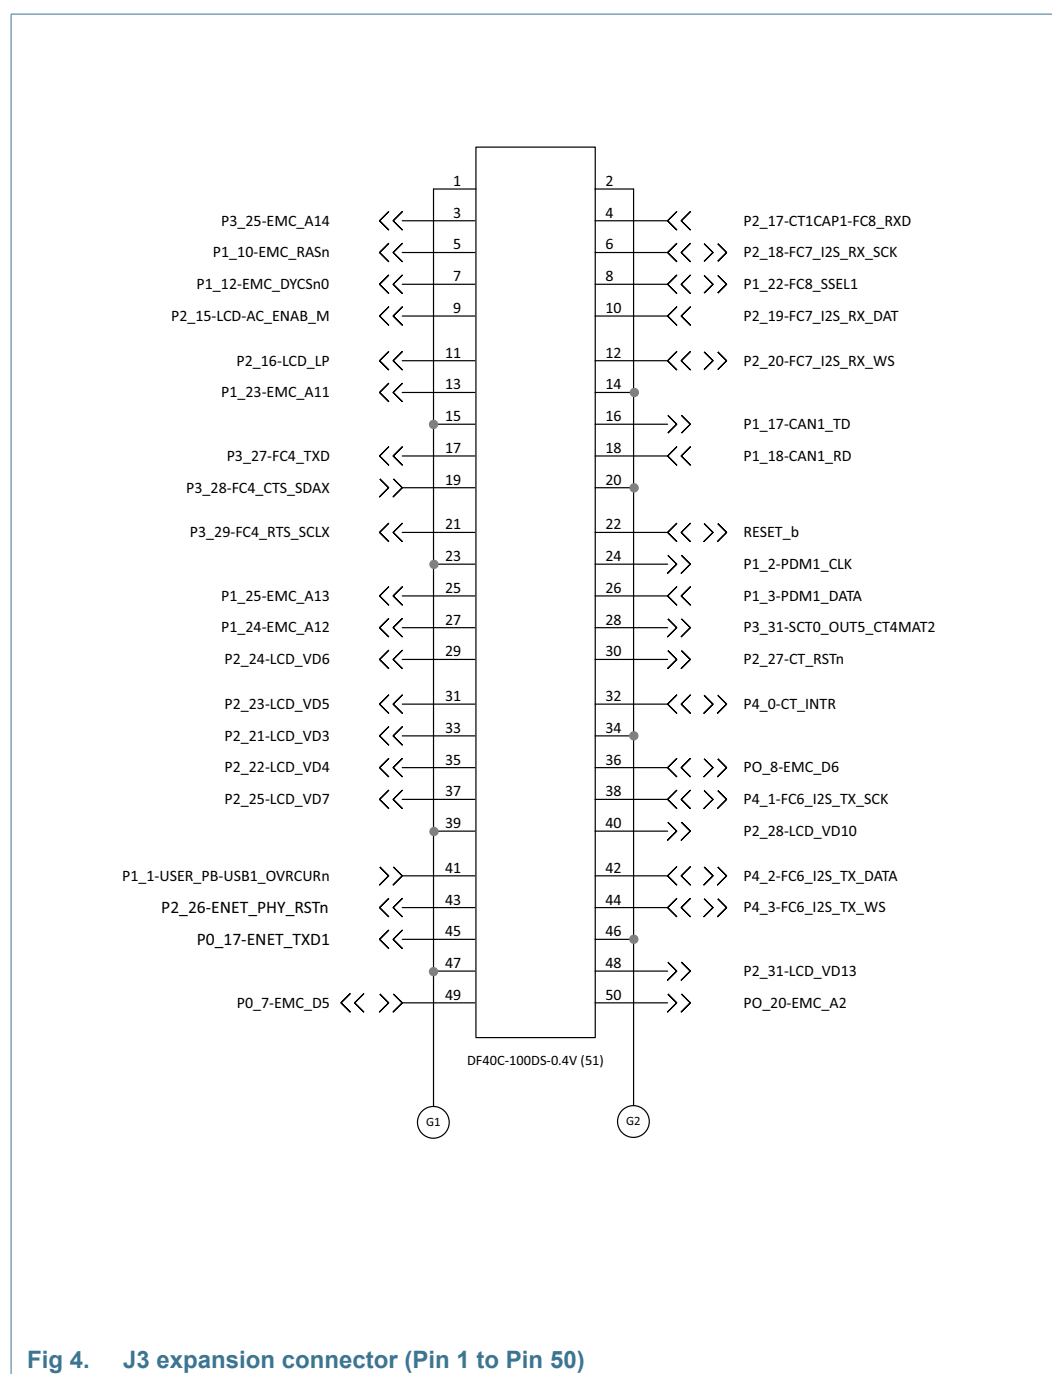
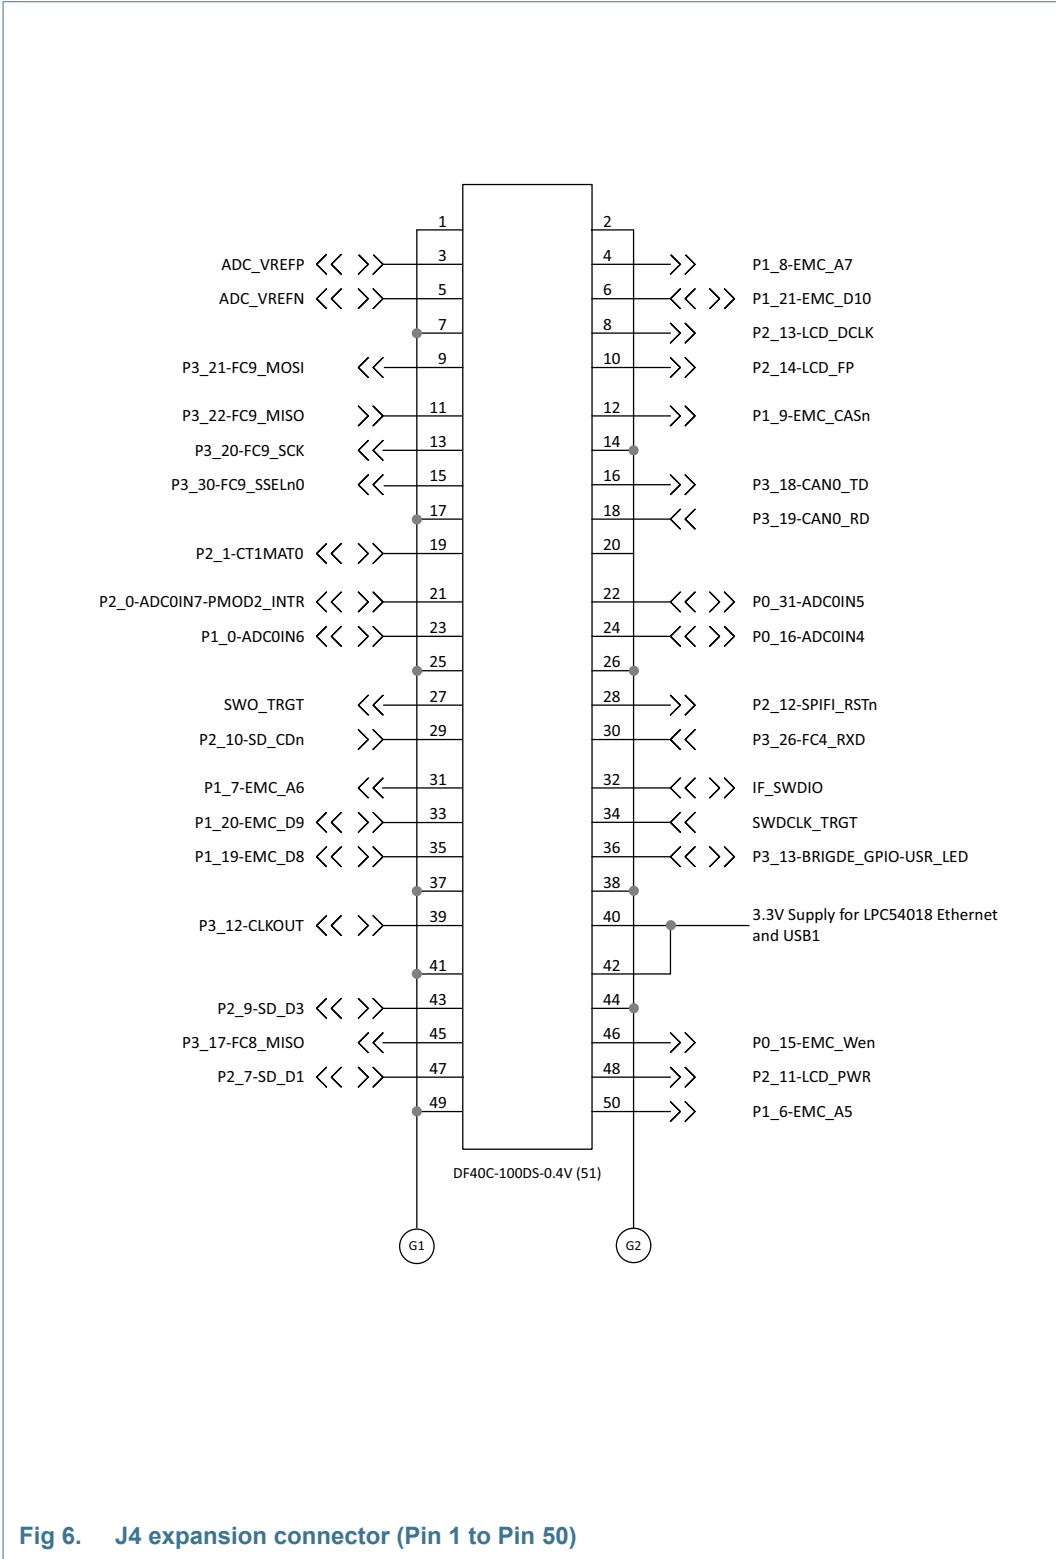

Fig 4. J3 expansion connector (Pin 1 to Pin 50)
Fig 6. J4 expansion connector (Pin 1 to Pin 50)
The module incorporates two expansion connectors to give access to the I/Os of the LPC54018 device, as shown in Figure 4 and Figure 6. Note that many port pins of the LPC54018 can be configured to one of the several functions. So, a baseboard designed to receive the module may use different functions shown on the labels in these diagrams. For full information on I/O configuration, refer to the user manual for the LPC540xx family devices. DF40C-100DP-0.4V(51) is the mating part number for use on baseboard designs from Hirose.